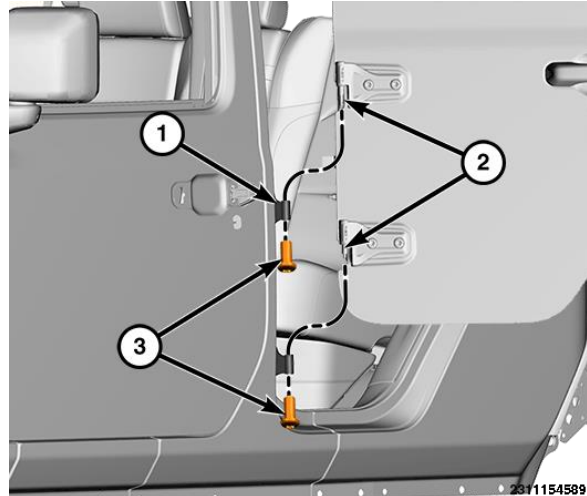

Figure 12 – Hinge Pin Nuts
33. Remove the nuts (3) and lift the door up off hinges (1) and remove (Figure 12).